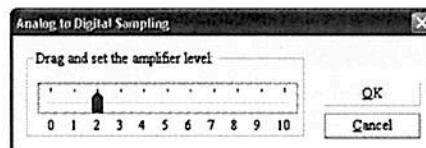
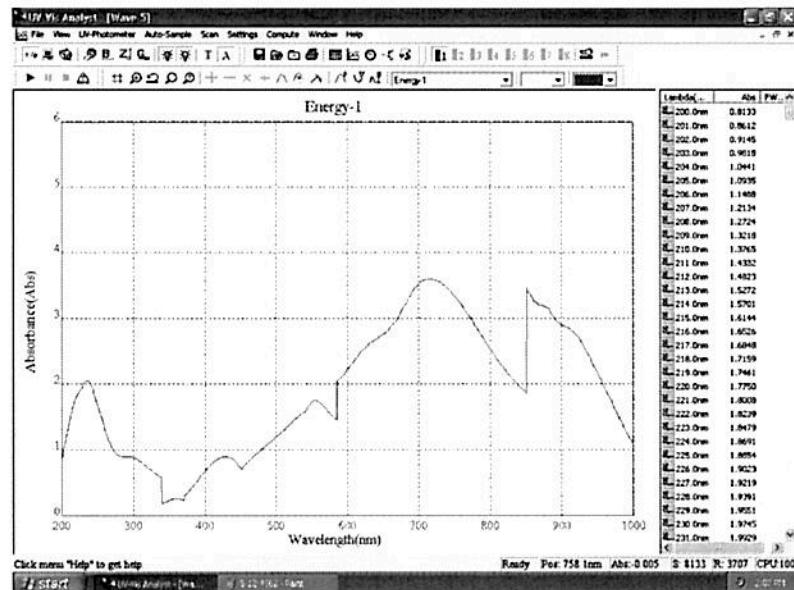

Fig. 5-9
Fig. 5-10
4. Click **Scan→Service→Energy Scan** on the Menu, appears following form (Fig. 5-9), select the amplifier, click **OK** to scan (Fig. 5-10). Click  to cancel while scanning.